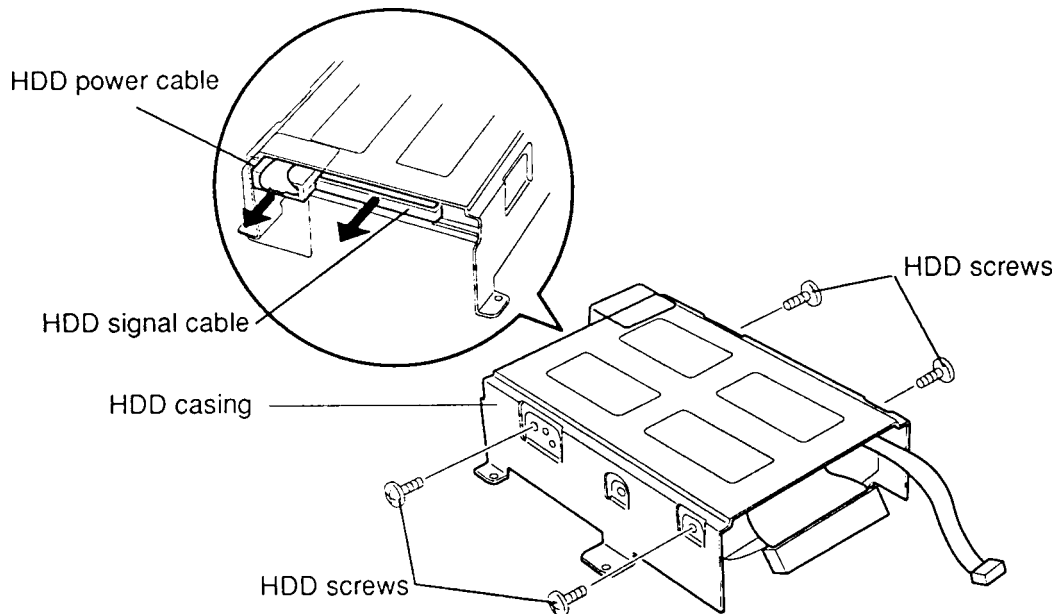

Figure 4-20 Separating the HDD from its Casing
5. To separate the **HDD** from its casing, remove the **four HDD screws** as illustrated in Figure 4-20.
6. Disconnect the **HDD signal cable** and **HDD power cable** from the HDD (Figure 4-20).
1. Connect the **HDD signal cable** and **HDD power cable** to the HDD (Figure 4-20).
2. Rotate the HDD power and signal cables between the HDD and the HDD casing (Figure 4-20).
3. Secure the HDD to the **HDD casing** with **four HDD screws** (Figure 4-20).